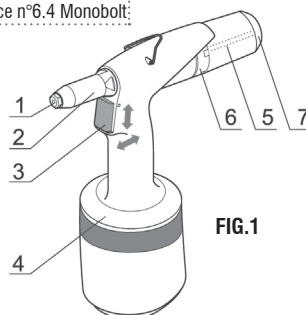

FIG.1
The manufacturer equipped the tool with an nose-piece /fig. 1 - pos.1/ for a Monobolt rivet Ø6.4. Riveting with blind rivets of different diameters (further on referred to as BR) requires use of appropriate nose-pieces /figure 1 - pos. 1/ that are located in the accessories casing of the tool.
Connect the tool to the source of compressed air, depress the trigger and screw out the nose-piece /figure 1 - pos. 1/ with a spanner no. 12. Screw on a new nose-piece /see the chart/ and tighten it.